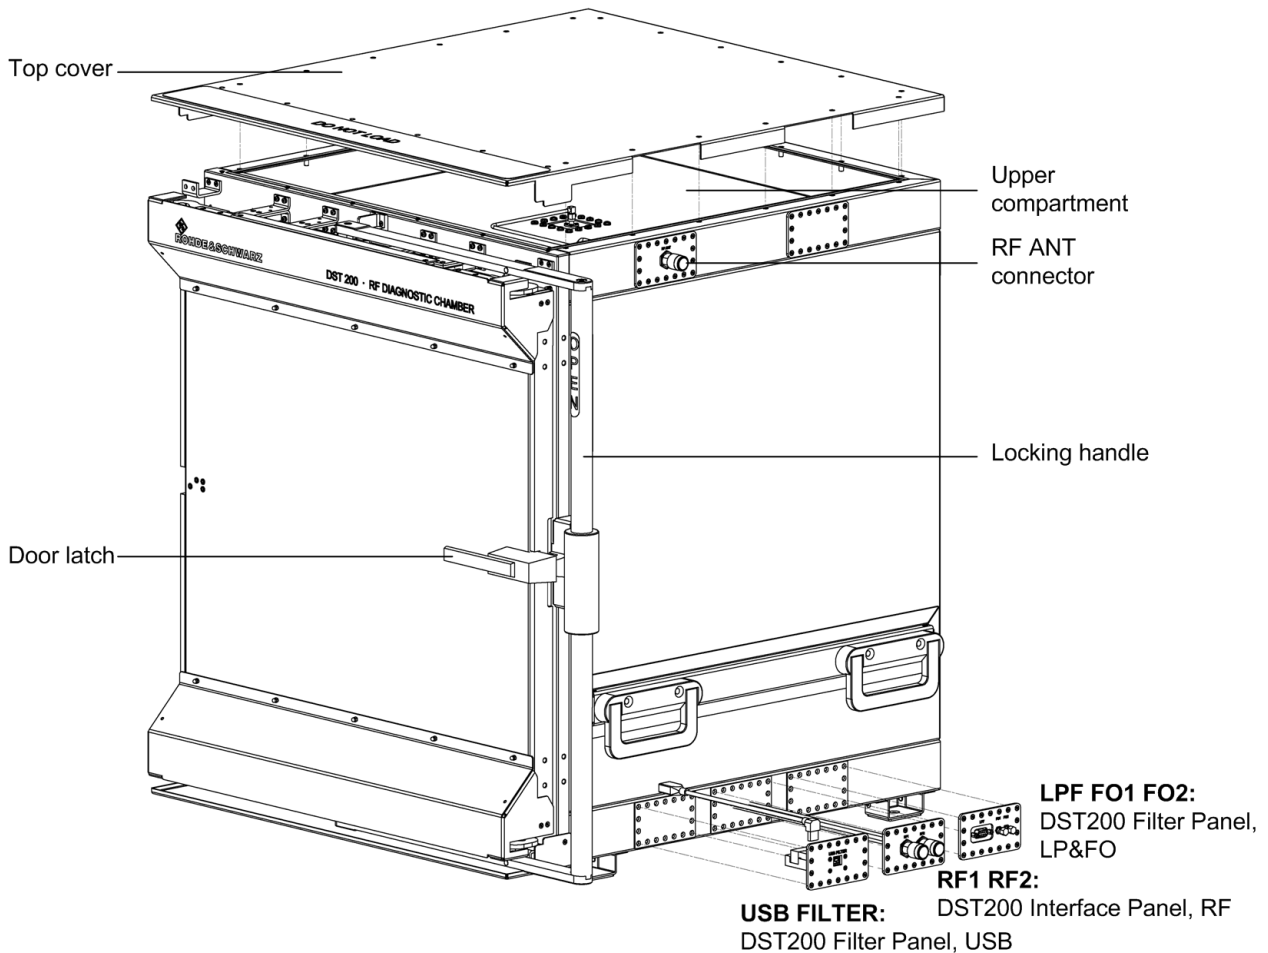

Fig. 2-1: RF Diagnostic Chamber with accessories
2. Turn the locking handle to the OPEN position as shown in figure 2-1.